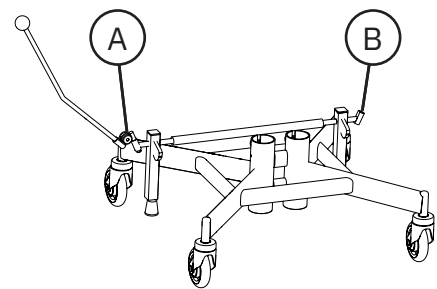

Figure 5.16. Brake lever.
The brake lever can be located on the right (A) or left (B) side of the base, see Figure 5.16.